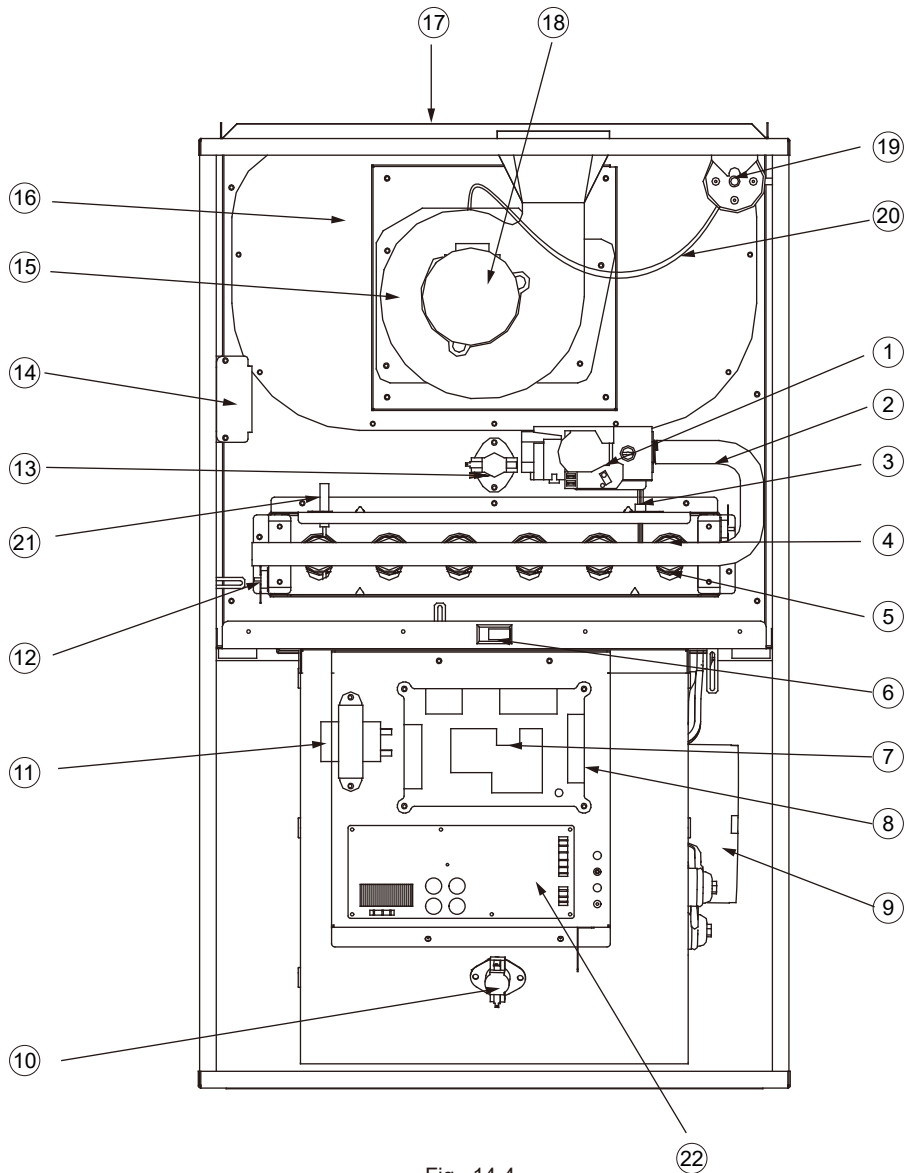

Fig . 14-4
- Parts are available from your distributor. (See Fig . 14-4)